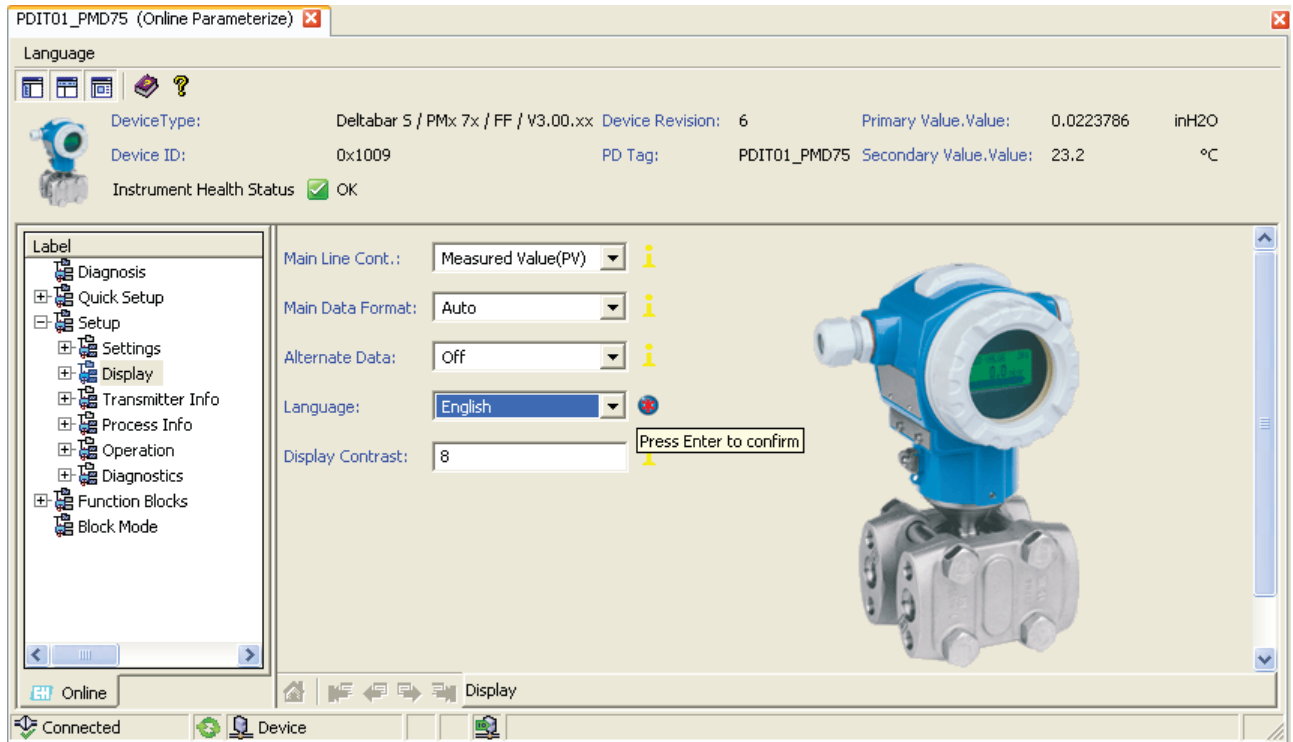

Figure 2-13. Display block Online Characterization.
- Go to *Setup* ► *Display*, select the desired language (Figure 2-13), and press *Enter* to confirm your choice.